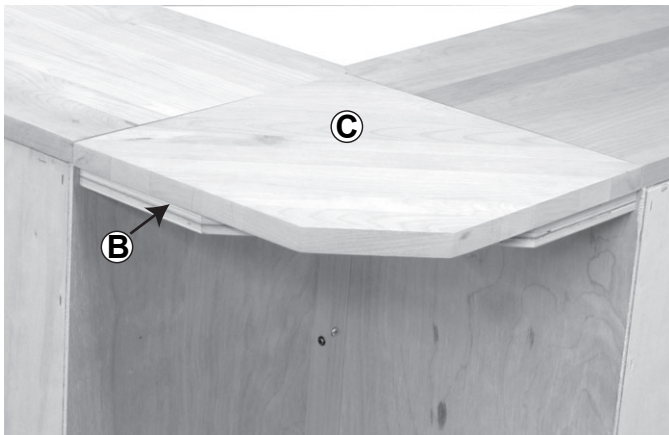
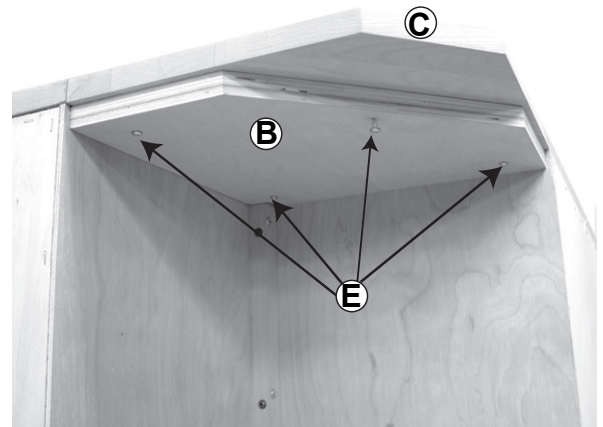

Fig. 4
Fig. 4a
4. Position the Top (C) on the Upper Corner Brace (B). See Figure 4. Attach with four #8x1¼" Pan Head Screws (E). See Figure 4a.